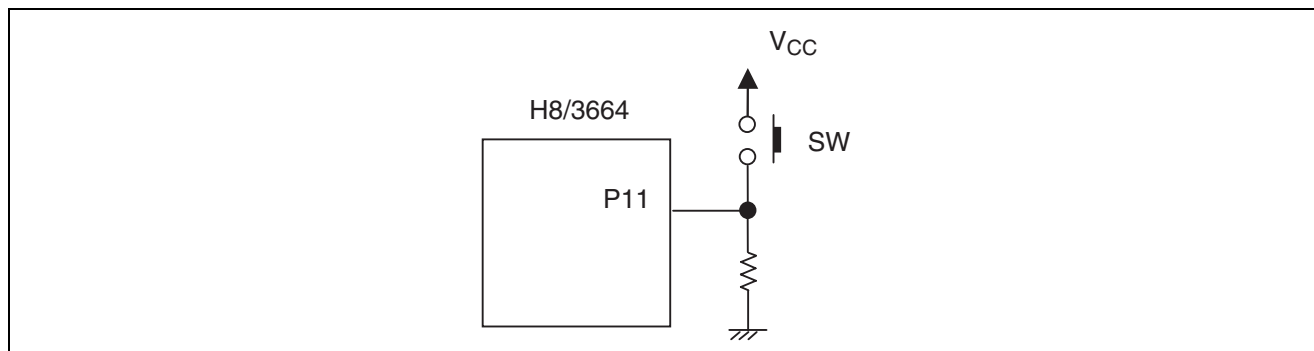

Figure 1 Example of Connecting a Switch to an I/O Pin
- As shown in Figure 1, connect a switch to P11.